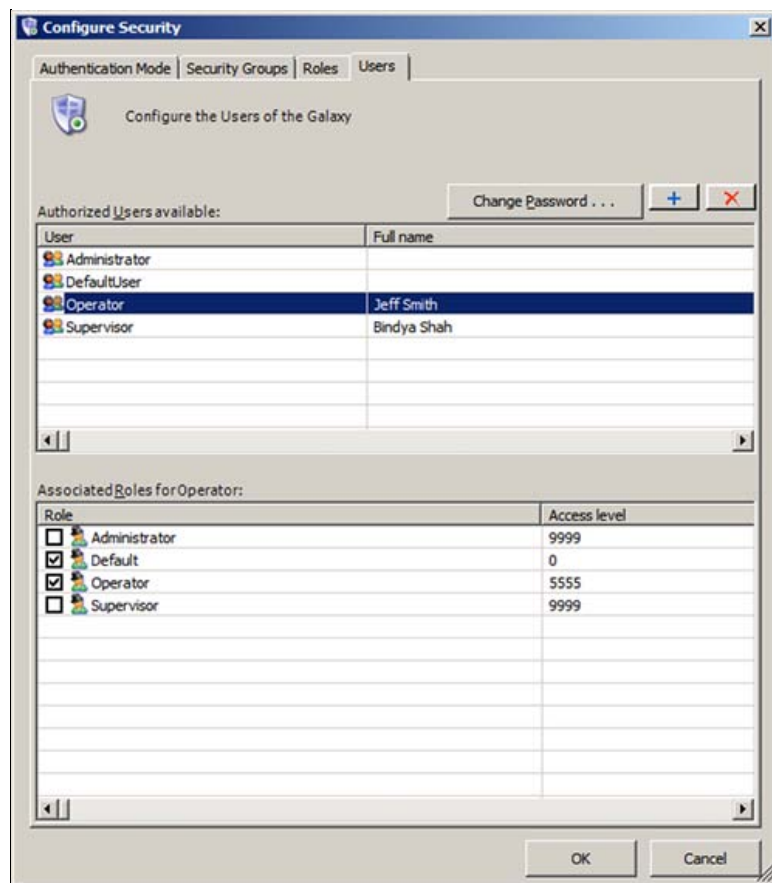

FIGURE 5: ASSOCIATED USERS AND ROLES
- Click the **Users** tab and make sure you have selected the associated role for each authorized user. For example, **Operator** is associated with the Operator role (Figure 5 below).